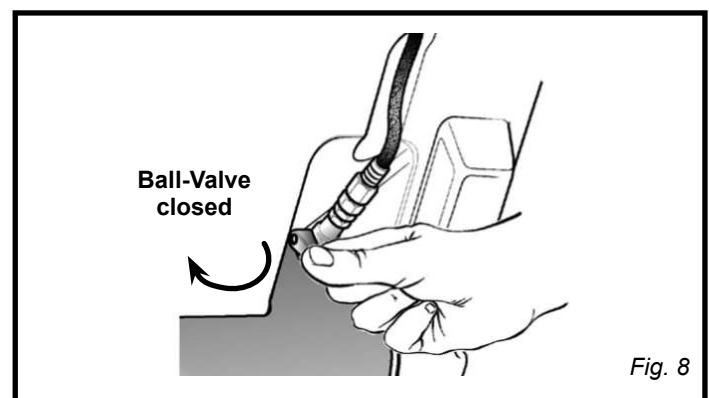

Fig. 8
See figures 8 - 11.
- Make sure the ball-valve at the base of the inflation hose is in the **OFF** position (vertical to the hose) (Fig. 8).
- Turn ball-valve to the “closed” position (Fig. 8) when inflation is complete.